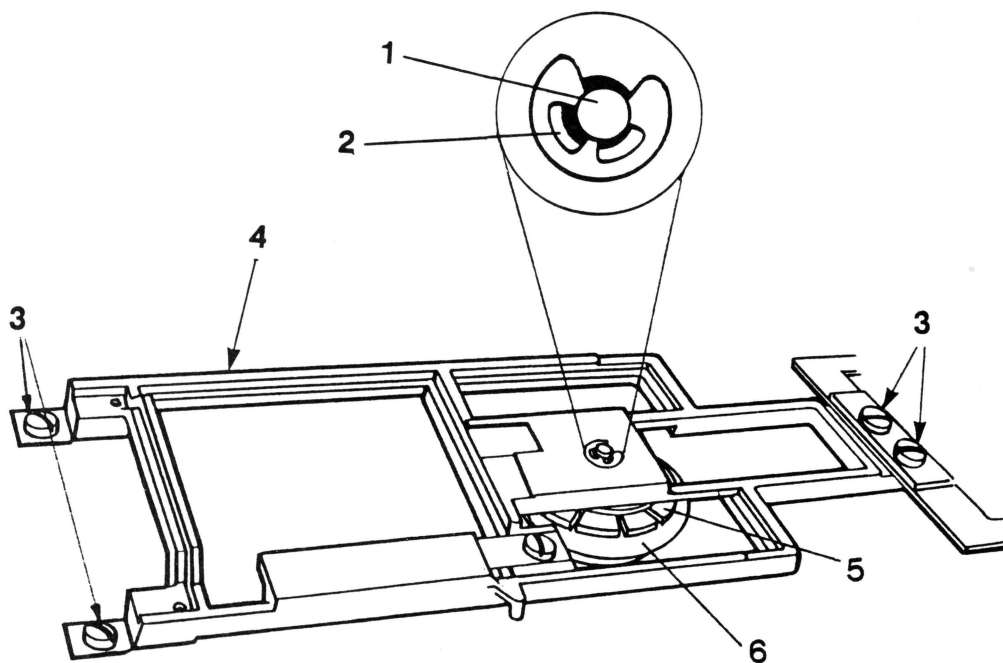

FIGURE 4
1. With the Disk Adjustment Tool centered, observe the Collect Hub (Figure 4,#5).
5. To adjust the Collet Hub look straight down on collet shaft, (Figure 4, #1) and close door. Check to see that shaft is centered.
7. Loosen four screws--two on back of bracket and two that hold bracket to door (Figure 4,#3).
8. Close door, ensuring that collet hub (Figure 4,#5) is seated in its receptacle (Figure 4,#6).
9. Looking straight down on collet shaft, move bracket around until shaft is centered in hole (Figure 4,#2).